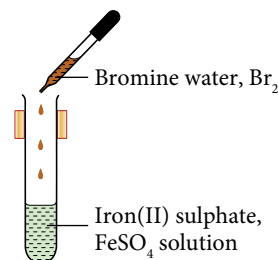

Figure 1.5
A. Conversion of iron(II) ion, Fe^{2+} to iron(III) ion, Fe^{3+}
- Pour 2 cm^3 of 0.5 mol dm^{-3} of iron(II) sulphate, FeSO_4 solution (freshly prepared) into a boiling tube held by a boiling tube holder as shown in Figure 1.5.